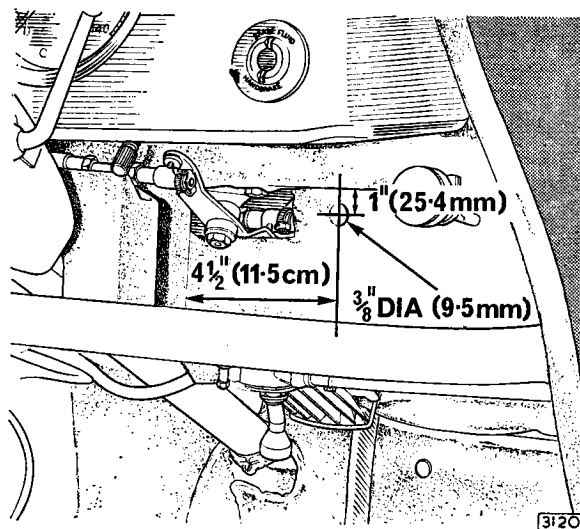

Fig. 82. Drilling in rear face of front parcel tray.
26. In vertical rear face of front parcel tray, on drive side of steering column, drill a $\frac{3}{8}$ " diameter (9.5 mm.) hole to dimensions as shown in Fig. 82 for balance control.